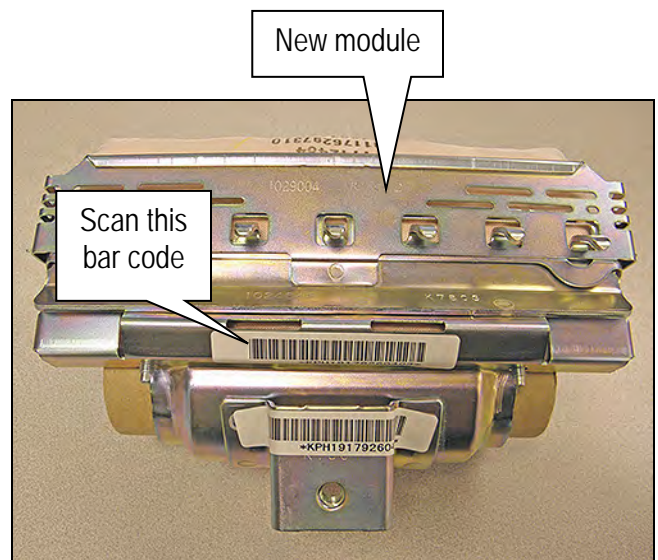

Figure 10
11. Use the quick scan tool to scan the bar code (serial number) on the new module (see Figures 10 and 11).